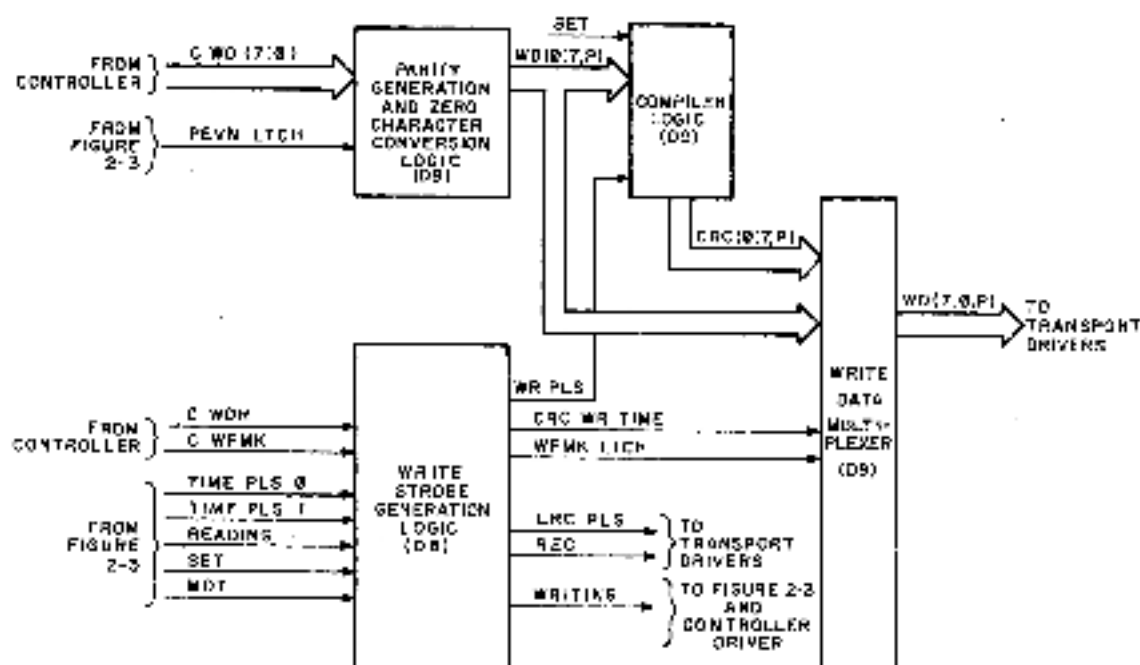

Figure 2-6 Write Logic Functional Block Diagram
50  $\mu$ s later, requesting the next character. While the write head records the data, the read head reads the data back. Each time the read head detects a character, a RD STRB (read strobe) is sent back to the read logic. Upon receiving three read strobes (minimum record length), the read logic asserts RECORD ACT to the shutdown logic. The recording operation then continues until all the data is recorded and the controller clears the CWDR line. When CWDR is cleared, WRITING (which is controlled by the write logic, Figure 2-6) clears and the shutdown logic is enabled.
**2.3.1.2 Write Logic** – The write logic generates the strobes necessary to write data, the CRC character, and the file mark character (Figure 2-6). In addition, the write logic generates parity and the CRC and file mark characters and converts all zero characters to 20h when even parity (PEVN LATCH asserted) is selected.